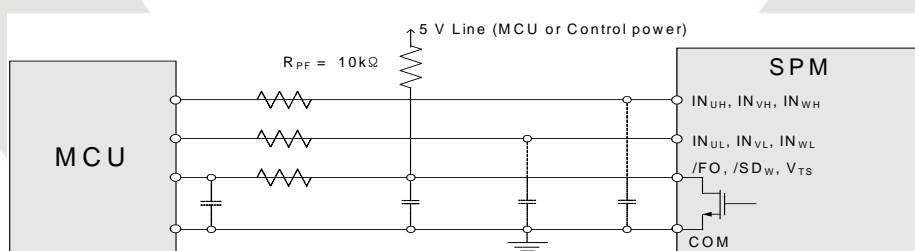

Figure 16. Recommended MCU I/O Interface Circuit
2. /FO is open-drain type. This signal line should be pulled up to the positive side of the MCU or control power supply with a resistor that makes I_{FO} up to 1 mA. *Please refer to Figure 16.*
22. /FO is open-drain type. This signal line should be pulled up to the positive side of the MCU or control power supply with a resistor that makes I_{FO} up to 1 mA. *Please refer to Figure 16.*